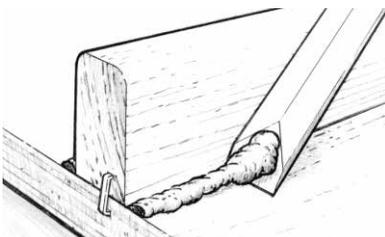

Figure 12 Remove or shape excess epoxy that squeezes out of the joint.
4. **Remove or shape excess adhesive that squeezes out of the joint as soon as the joint is secured with clamps.** An 804 mixing stick is an ideal tool for removing the excess (Figure 12). Allow to cure thoroughly before removing clamps.